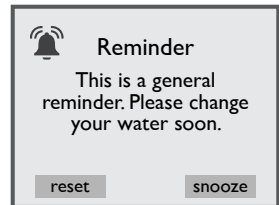

Figure 12.6f
4. When the timer expires, a message will appear on the control panel display, Figure 12.6f. The water must be drained and replaced with fresh water. Follow the instructions above to reset the timer. If you tap “snooze” the message will clear but the error icon will display and the reminder screen will reappear in 10 days. Refer to Section 13.1, page 61, for filter location.